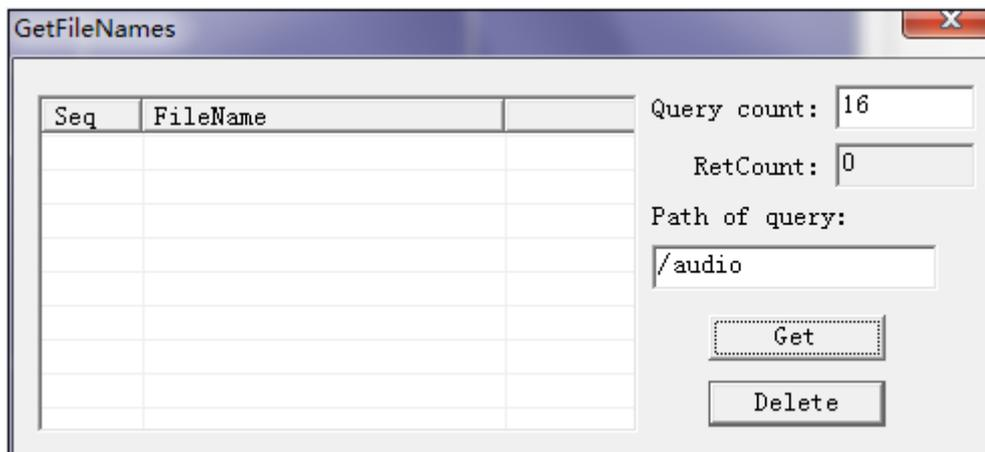

Figure 2- 24
Step 1. In Control&Search dropdown list select file search and delete, click Control&Search. See Figure 2- 24.